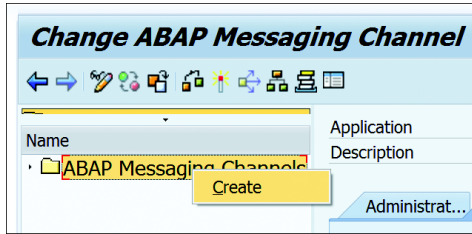

Figure 19.127 Create ABAP Messaging Channel
1. On the initial ABAP messaging channel screen, right-click the `ABAP MESSAGING CHANNELS` folder and select `CREATE`, as shown in Figure 19.127.